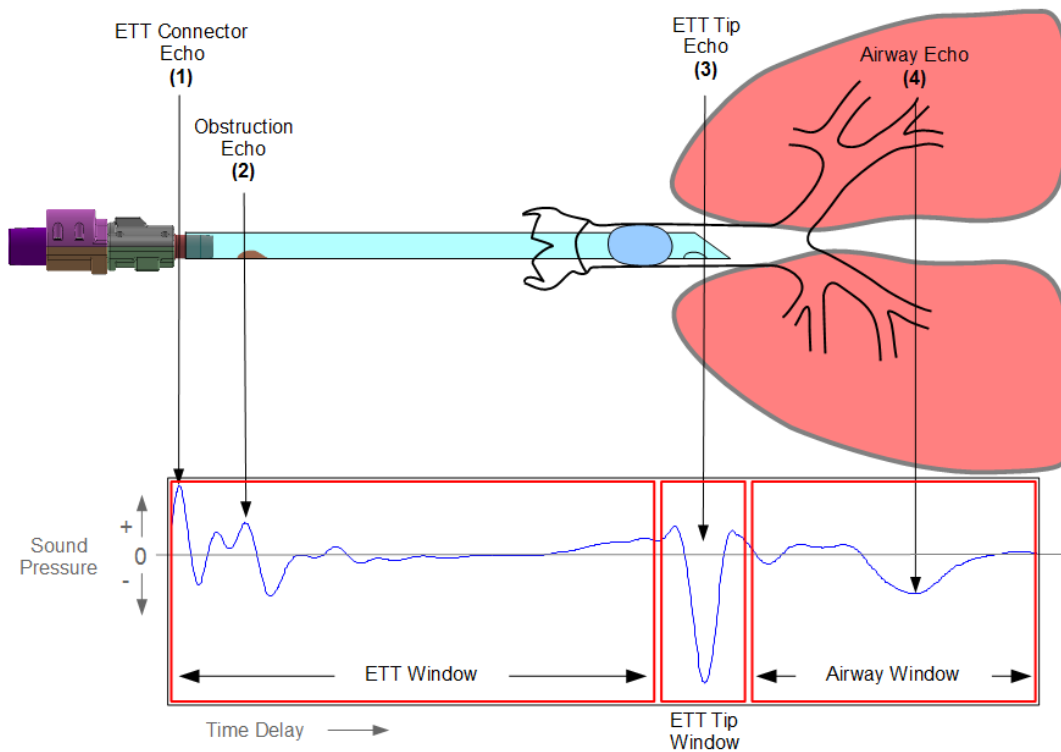

Figure C-3
To illustrate the relationships between cross-sectional area, amplitude, and time delay, refer to Figure C-3 depicting an intubated ETT with a corresponding echo signal (pressure amplitude on y-axis and time delay on x-axis). For each deflection in the echo signal, an arrow denotes the corresponding region in the ETT and airways from which that echo arises.
In Figure C-3, the first (leftmost) echo (1) is a positive deflection (positive pressure) which indicates an A change within the Sensor ETT connector from larger to smaller. This corresponds to the diameter change within the connector (for example, from 3.5 to 3.0 mm ID in the 3.0-mm Sensor).